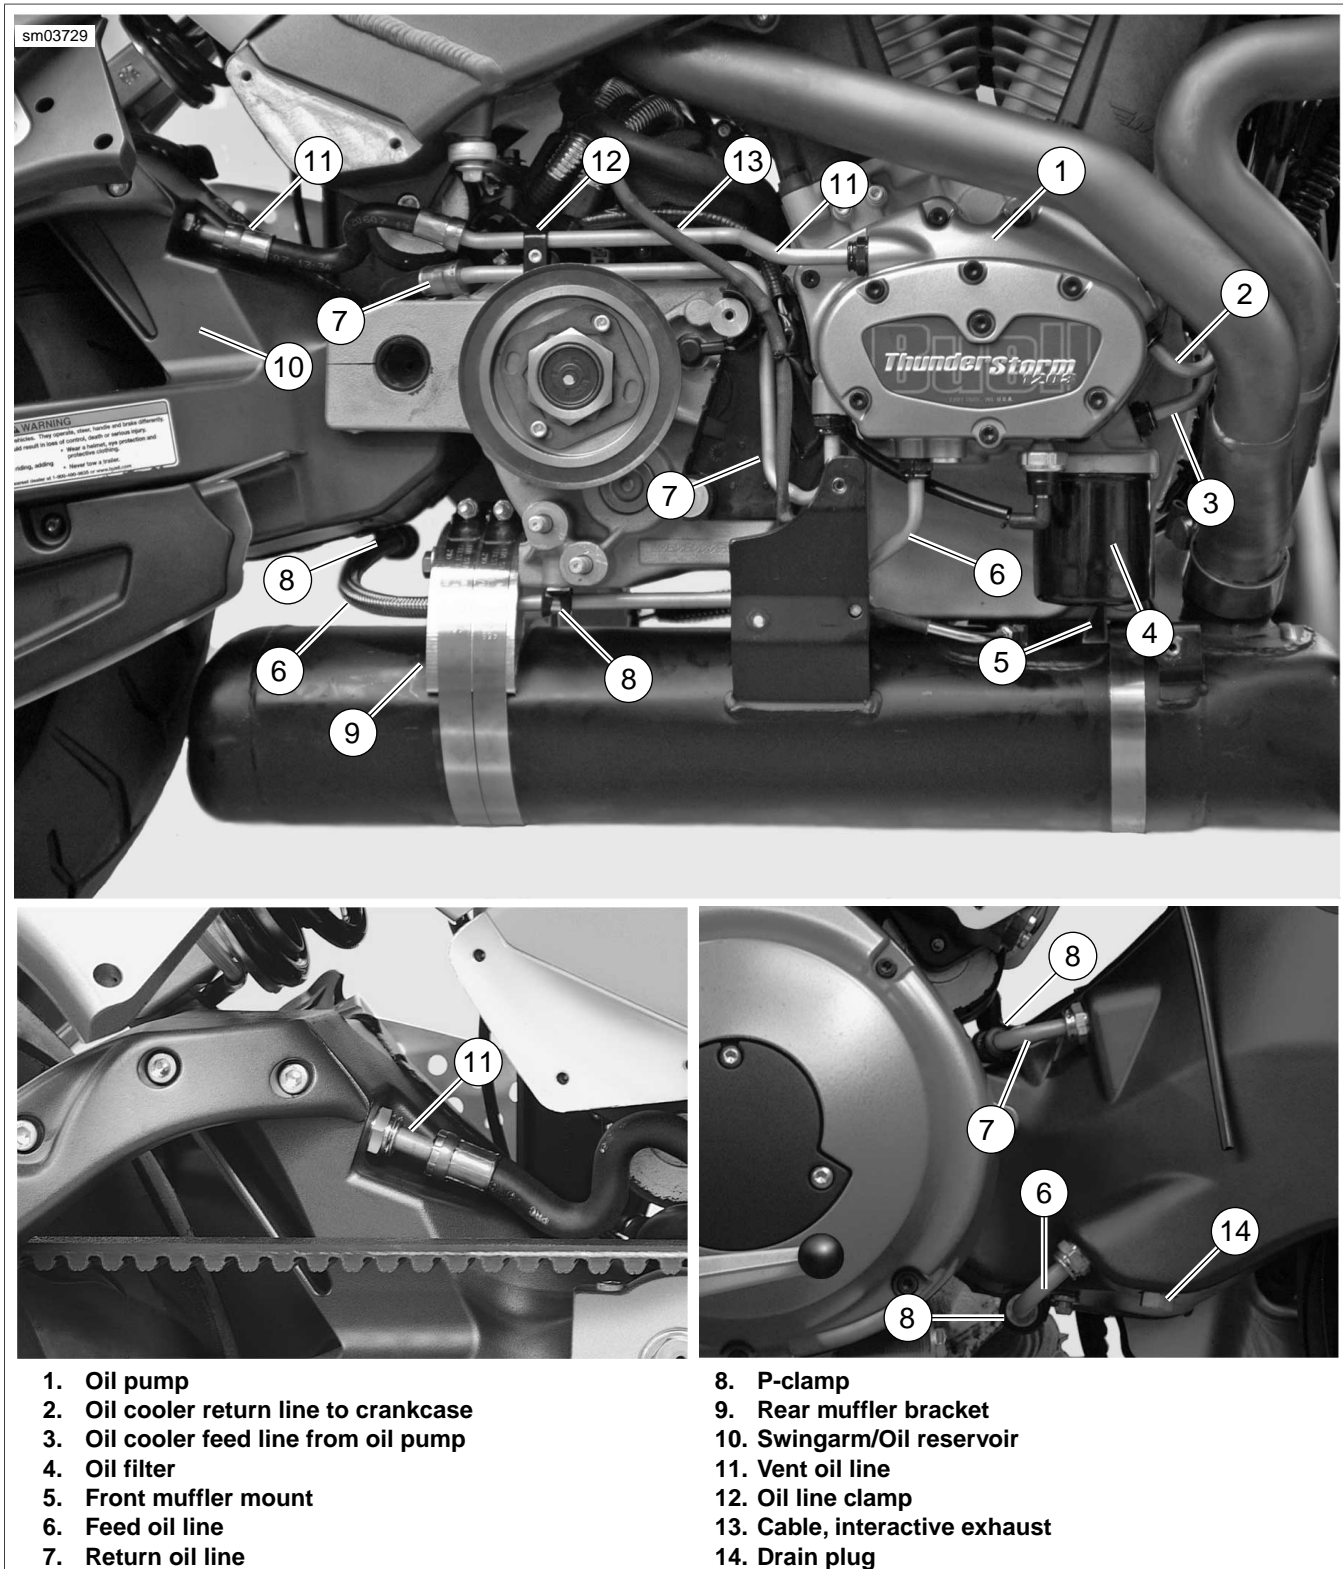

Figure 3-37. Oil Lines and Connections
- See Figure 3-37. The feed oil line is routed through the right side of the rear muffler bracket (7).